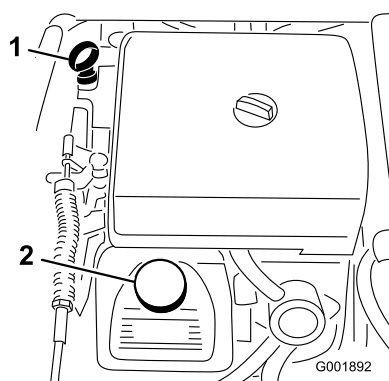

Figure 45
2. Remove the dipstick and wipe it with a clean rag (Figure 45). Insert the dipstick into the tube and make sure it is seated fully. Remove the dipstick and check the oil level.
3. If the oil level is low, remove the filler cap from the valve cover (Figure 45) and pour oil into the opening until the oil level is up to the Full mark on the dipstick. Add the oil slowly and
8. Slowly pour approximately 80% of the specified amount of oil into the oil filler tube (Figure 45).